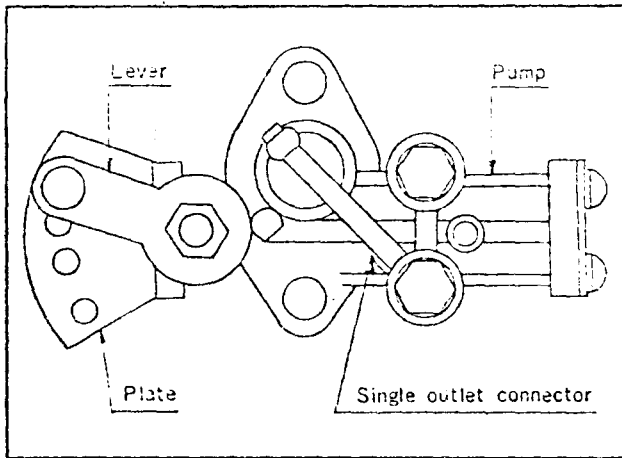

Fig. 2-26 Changing Parts of Oil Metering Pump
(1) Remove the throttle-linked lever and install the fixed lever and plate. (See Fig. 2-26)
(Refer to Fig. 2-26).